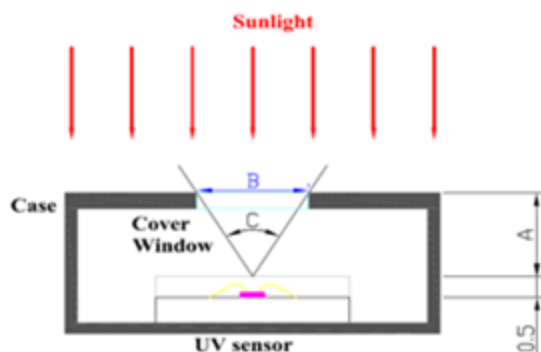

Fig. 2 Structure of UV Sensing parts
- 1) There are 3 parameter in Fig. 2
- 2) C is over 50 degree at least. Generally, A in Fig. 2 is fixed and C is 60 °.